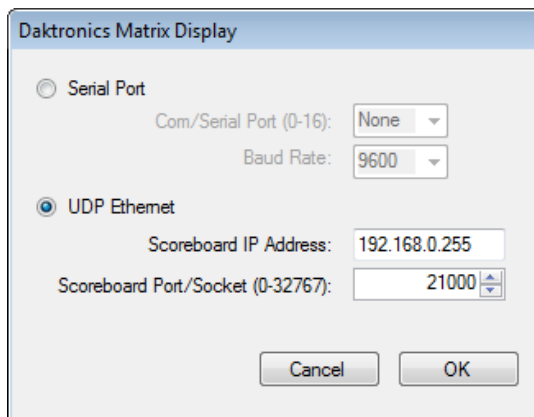

Figure 25: RaceClock Comm Options
2. Click on **UDP Ethernet**, and set up the options as follows (**Figure 25**).